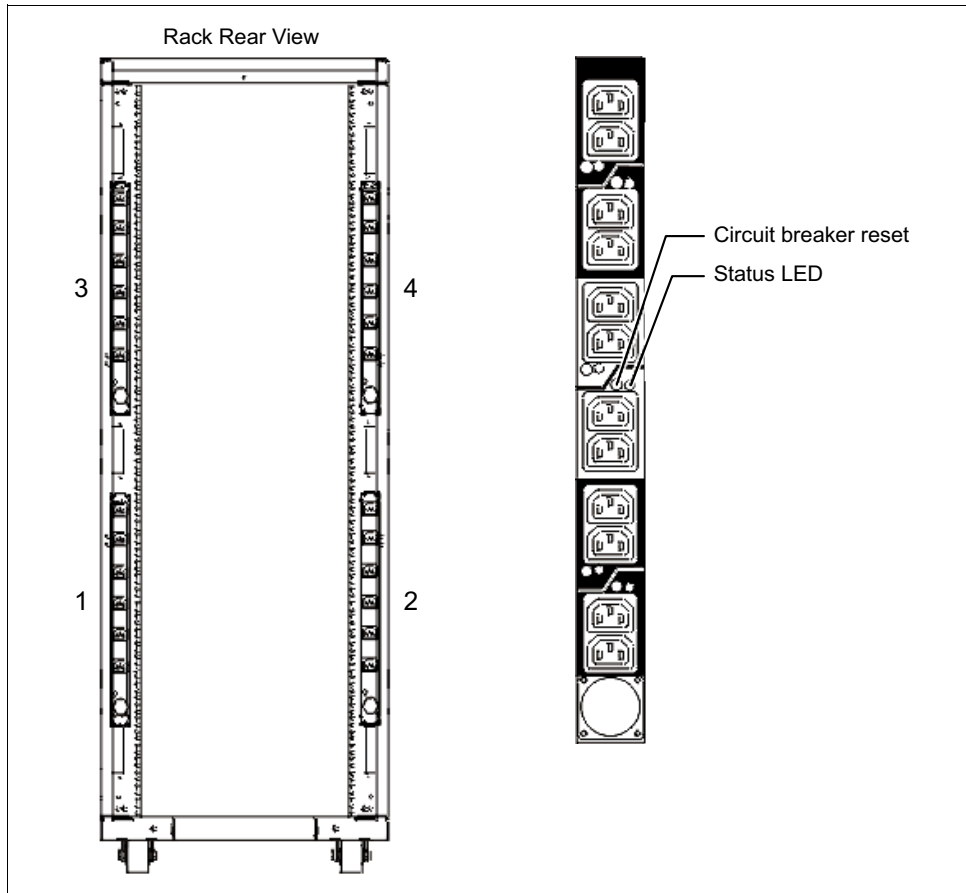

Figure 1-5 PDU placement and PDU view
- ▶ Up to four power distribution units (PDUs) can be mounted in the PDU bays (see Figure 1-5 on page 33), but others can fit inside the rack. See 1.12.8, “The AC power distribution unit and rack content” on page 32.
Four PDUs can be mounted vertically in the back of the T00 and T42 racks. Six PDUs can be mounted vertically in the 94Y. Figure 1-5 on page 33 shows the placement of the four vertically mounted PDUs. In the rear of the rack, two additional PDUs can be installed horizontally in the T00 rack and three in the T42 rack. The four vertical mounting locations will be filled first in the T00 and T42 racks. Mounting PDUs horizontally consumes 1U per PDU and reduces the space available for other racked components. When mounting PDUs horizontally, use fillers in the EIA units occupied by these PDUs to facilitate proper air flow and ventilation in the rack.